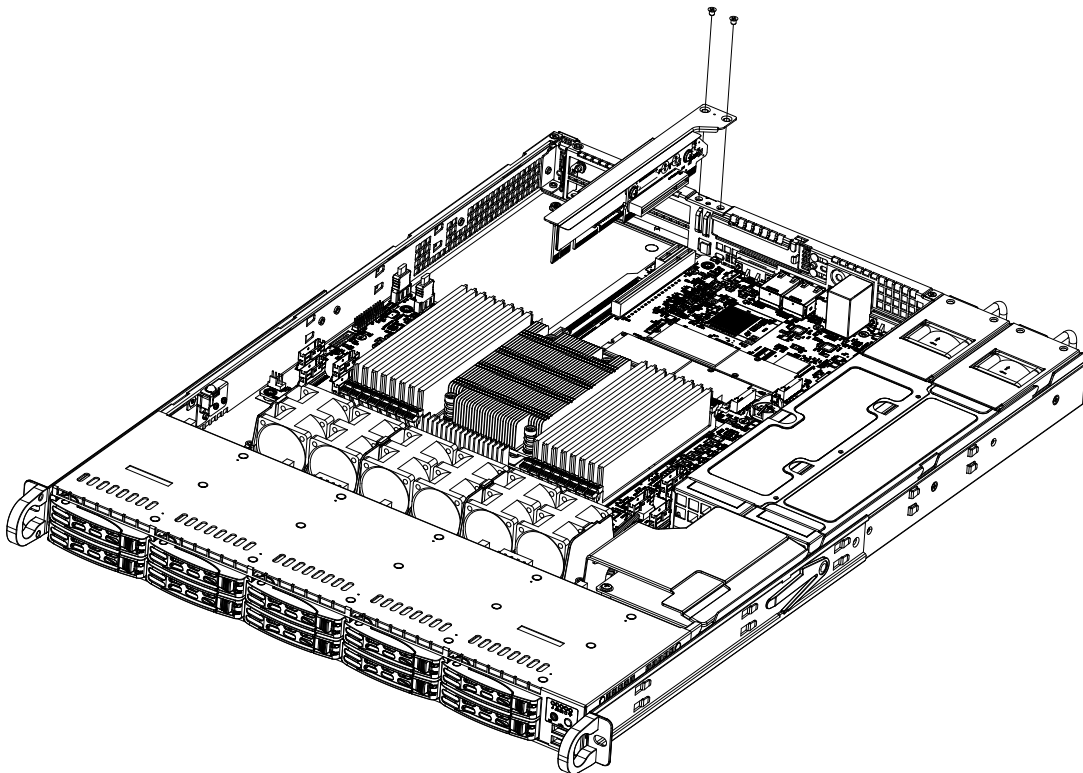

Figure 3-12. Removing the Riser Bracket
1. Remove the riser card bracket from the chassis by unscrewing the screws indicated in Figure 3-12.